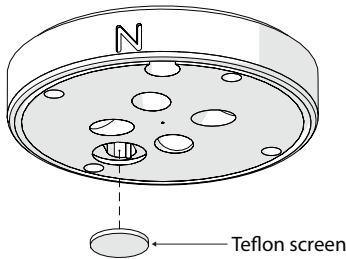

Figure 21 Teflon screen
- d. Observe the Teflon screen (Figure 21) to see if it is dirty.